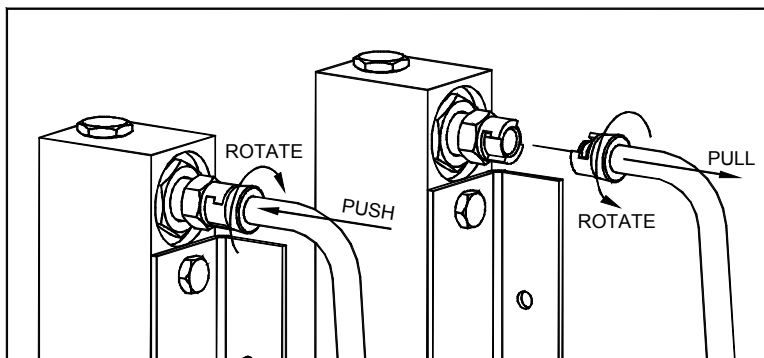

Figure 3: Quick Disconnect Fitting at Flowmeter
5. Disconnect the "quick-disconnect" fitting at the top of the flowmeter (for standard downstream sensor configuration) by pushing both halves of the fitting together and rotating one to the release position. See Figure 3.